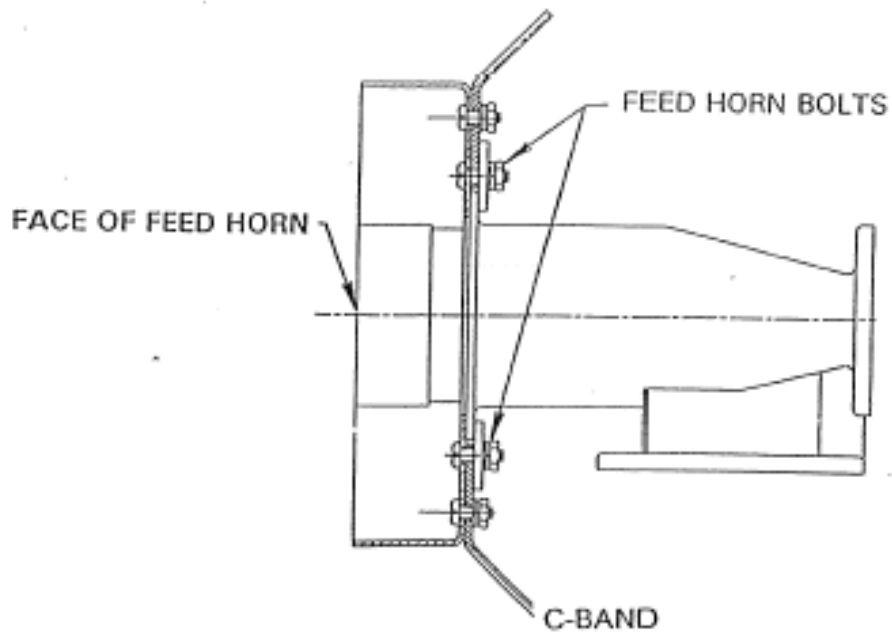

FIGURE 4.3-5
2. **Polarity Adjustment** - On C-band and Ku-band feed systems, polarity is adjusted by loosening the feed horn bolts (see figure 4.3-5 and 4.3-6) and rotating the OMT or feed horn 90 degrees, then re-tighten the bolts.